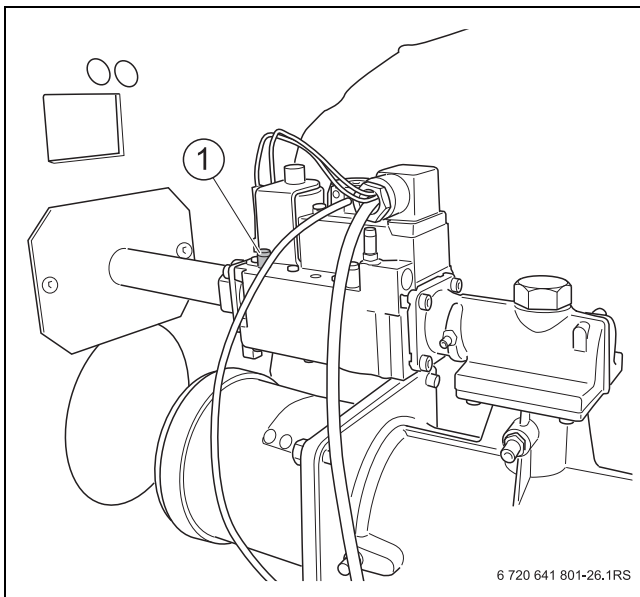

Fig. 41 Checking the gas supply pressure (boiler size 90/120 kW)
- ▶ Undo the plug on the pressure test nipple for the gas supply pressure and purging (→ Fig. 41, 42, 43 [1]) by 2 revolutions.